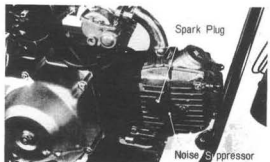

Fig. 105
- (1) The simplest method is to remove the spark plug and perform the starting procedure with the spark plug grounded to the engine. When a strong spark of bluish white color is produced, it is an indication of a satisfactory ignition coil and flywheel A.C. generator (Fig. 105)